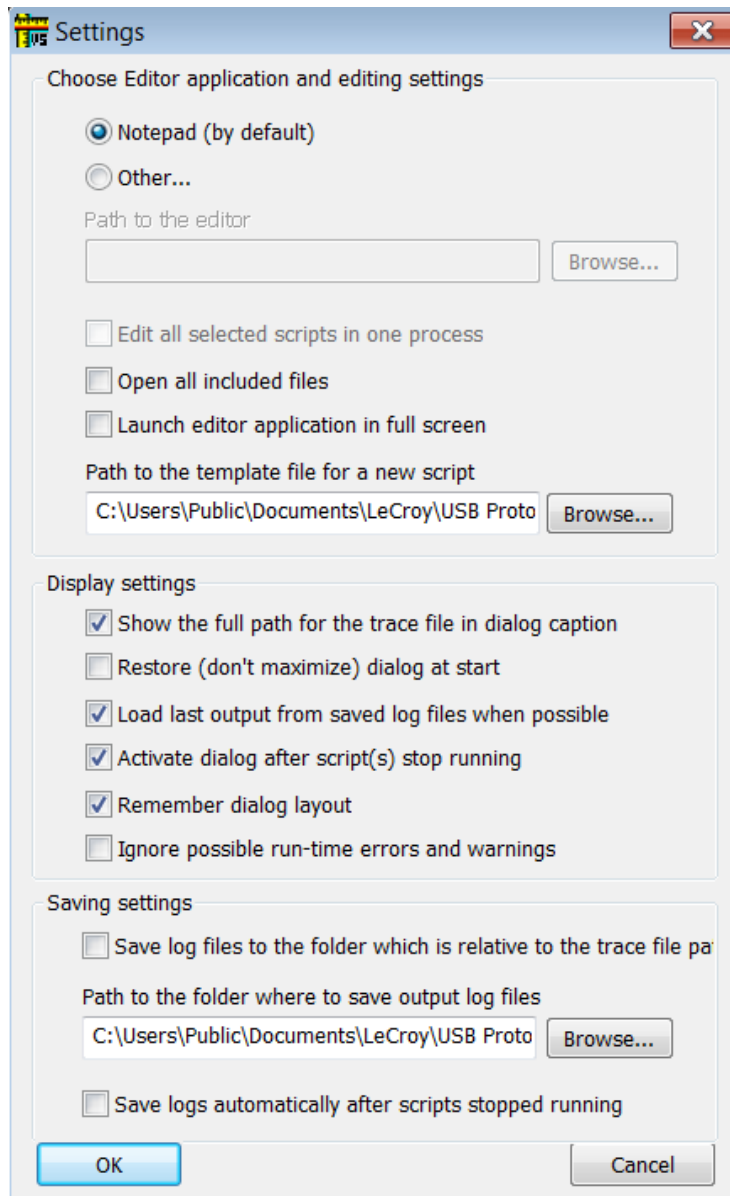

Figure 10.79: Settings Dialog
4. After choosing **Settings** from the drop-down list or the button, the Settings dialog appears (see Figure 10.79 on page 482.)